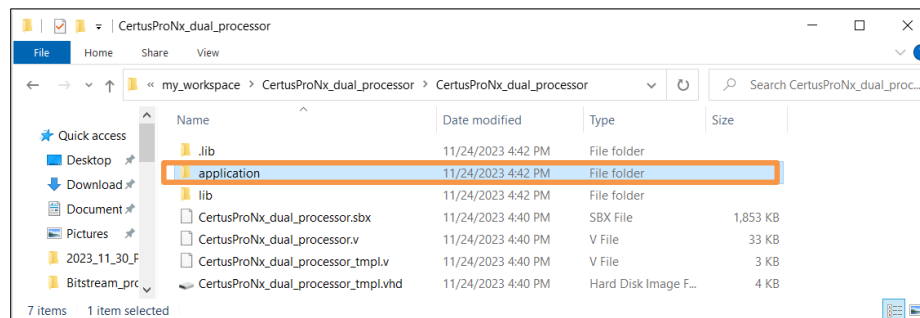

Figure 5.10. Application Folder in Source Project
- e. For some templates, there is an application folder inside the project directory (Figure 5.10). This folder is used for creating C project in Propel SDK. Copy it from the source project.